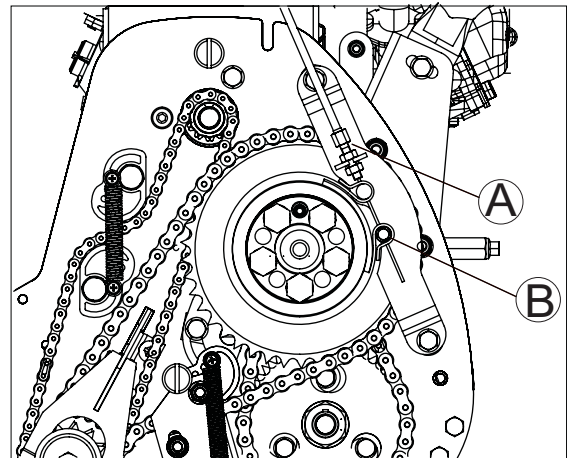

Fig 8.15a
Refer to Fig 8.15a for Marquis & Super Bowl parking brake.
2. Route brake cable through brake bracket abutment, pull inner cable tight through pivot pin, and secure with screw [B] (Fig 8.15a).
3. With Parking brake lever activated adjust locking nuts [A] in (Fig 8.15a & 8.15b) to ensure the brake band is exerting enough force on the drum to prevent the machine from moving on a 15° slope and is clear of the drum in the off position.